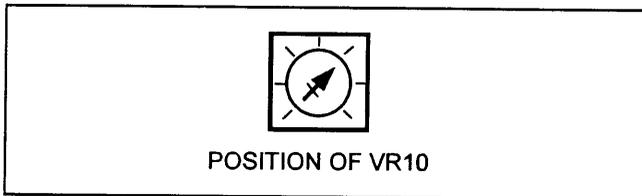

Figure 6
4. Set the VL1 as shown in Figure 6.